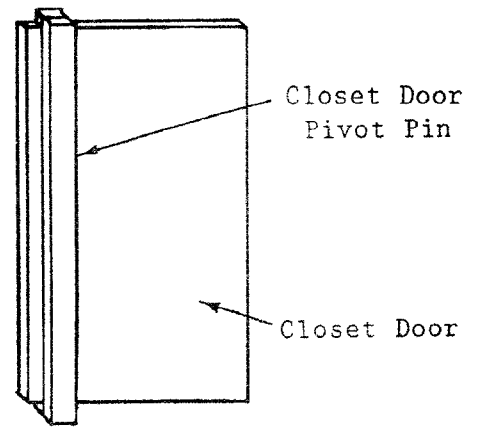

Figure 25
3. Glue the inside closet door pivot pin to the closet door as in Figure 25. Round the pins as with the front door.